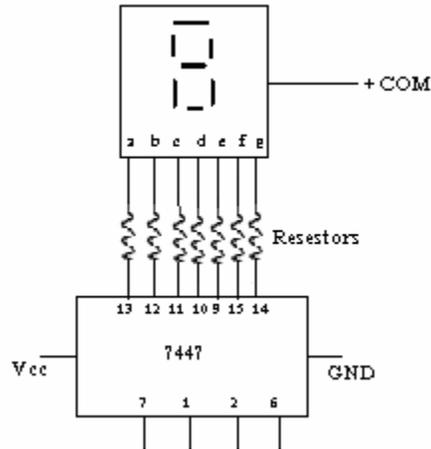

Figure.8: display-decoder connection
5. In Figure.8, why pin 12 must be connected to pin 1? What happen if we connect pin 1 to the clock and disconnect pin 12? (See the logic diagram of 7490 counter (Figure))
2. Implement the circuit shown in Figure.8.
4. Connect pin 3 (LT) of the 7447 decoder to the ground. All 7 segments must be turned on. This to verify that all segments in the display are work correctly.